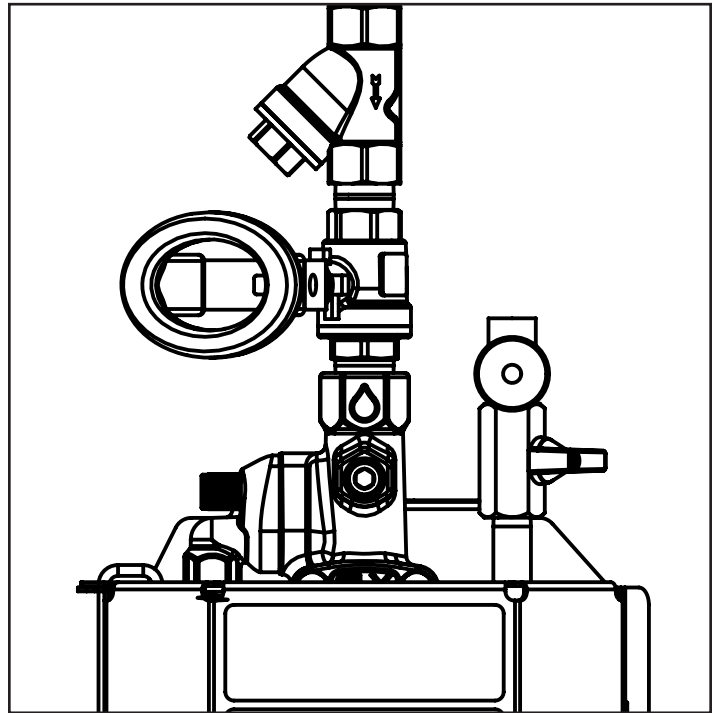

Fig. 6.1: Water and air supply ball valves closed.
1. Ensure foamer is properly connected and the water and air supply valves are closed [Fig. 6.1]